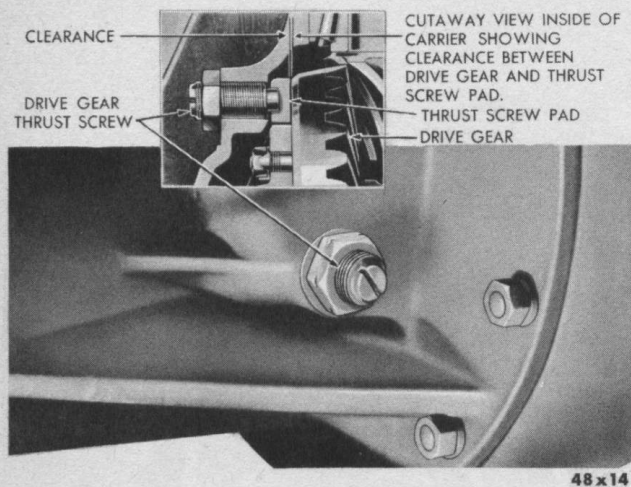

Fig. 42—Drive Gear Thrust Screw Adjustment
- (1) Loosen lock nut.
- (2) Turn adjusting screw *in* until thrust pad strikes ring gear (Fig. 42).